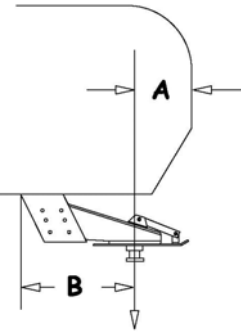

Figure 1
- As a general rule, for the SuperGlide hitch to maintain proper clearance to the truck, the leading edge of the trailer (measured at the corner) should be even with the center of the king pin. Most truck trailer combinations will allow 102" wide trailers if the king pin is located as described. Narrower trailers will allow the king pin to be "tucked" under the trailer over hang to some extent (Figure 1). Call PullRite technical support with trailer width, make and year of truck and distance the king pin is from leading edge of the trailer (Dimension A). 1-800-443-2307.
- Using a trailer that has a long rear slope to the King Pin Box Hanger, "B" in (Figure 1), may cause damage to the trailer or truck bed during turns. Dimension "B" must be less than one half the width of the inside top edges of the bed. Please call PullRite technical support, 1-800-443-2307, if more information concerning this problem is needed.